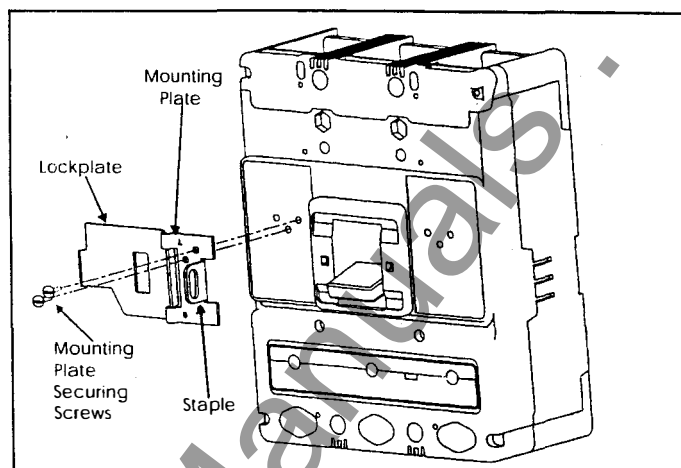

Figure 2-2 Mounting Hole Locations
circuit breaker (Fig. 2-2). For mounting over the right pole, letter R must be toward the line end of the circuit breaker.
- 2-4. Position mounting plate on cover. Align mounting holes. (See Fig. 2-2).